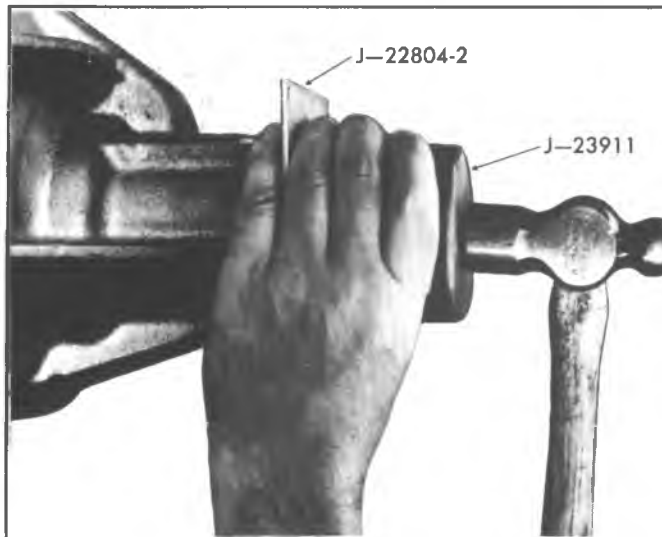

Fig. 25B--Installing Pinion Oil Seal
2. For 8-7/8" ring gear position seal in bore and place gage plate J-22804-2 over seal and against flange. Gage plate insures proper seating of seal in carrier bore. See figure 25B. Use J-23911 to press seal into bore until gage plate is flush with the carrier shoulder and seal flange. Turn gage plate 180°; seal must be square in carrier to seal properly.